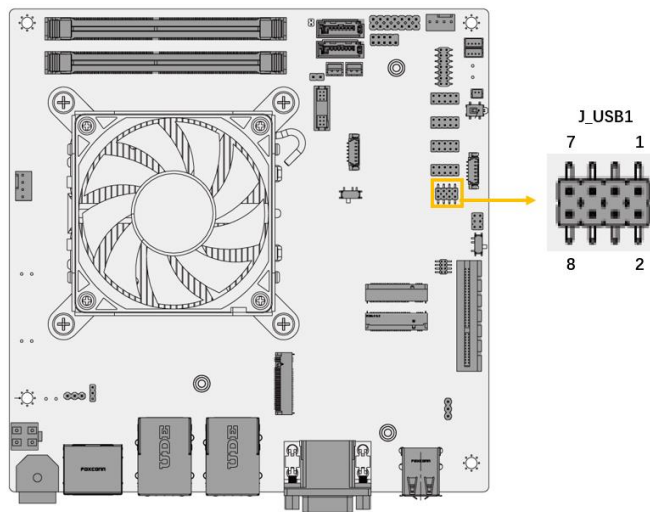

Figure 3-24: Internal USB 2.0 Connector Location
- CN Location:** See Figure 3-24